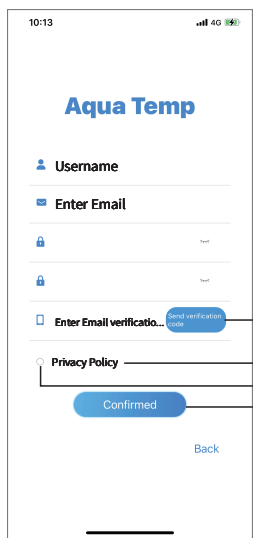

Fig.2 Account Registration interface
- 9. Click "Confirmed", device bond is done (Fig.2
- 11. Click the device directly jump to device main interface(Fig.2